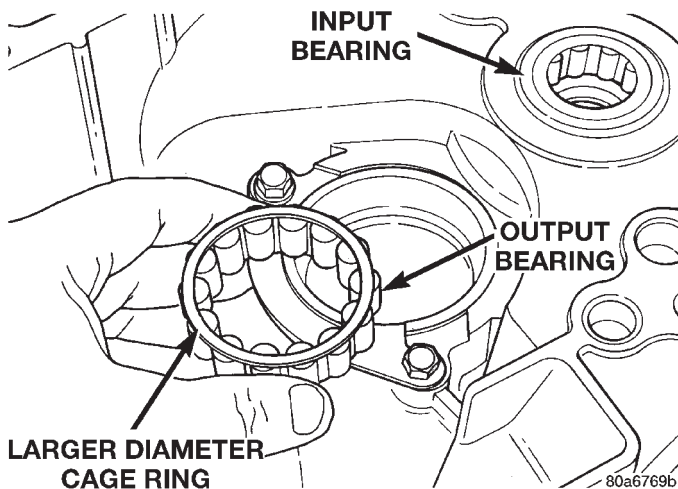

Fig. 132 Output Roller Bearing
- (1) Remove caged roller bearing from output bearing race (Fig. 132).